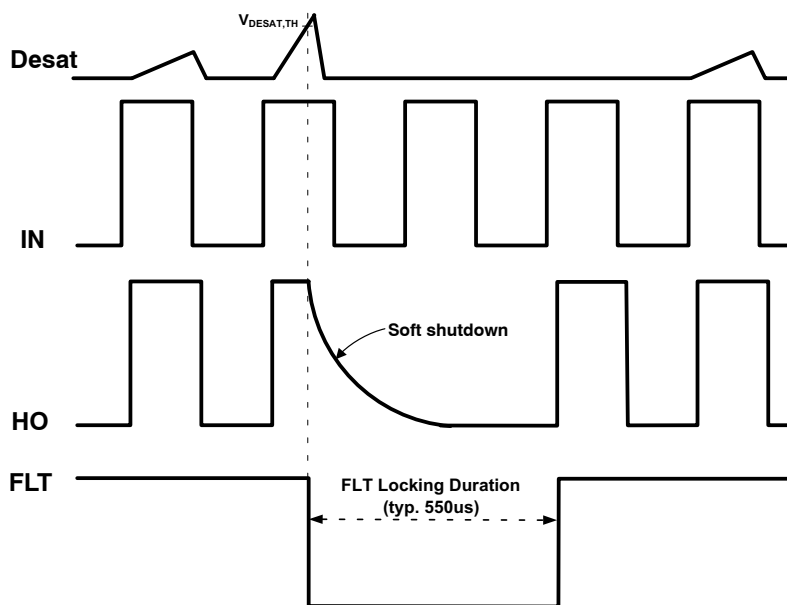

Figure 19. Desaturation Protection and Soft Shutdown
- The gate driver initiates a soft shutdown. The driver will provide a high resistive path through R_{SOFT} for gate capacitance to discharge slowly [see Figure 19]. The fall rate of HO is determined by the time constant of the RC discharge path.